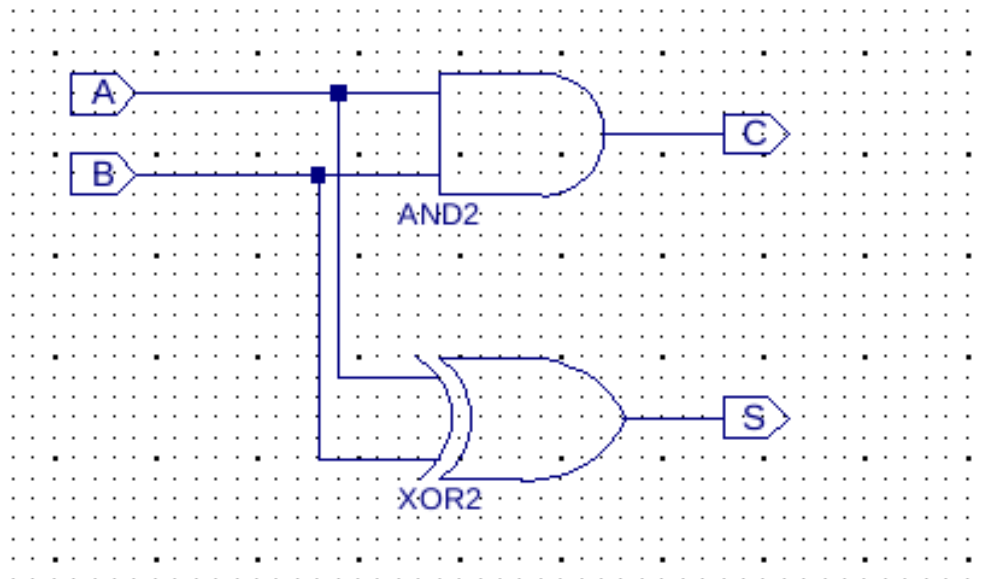

Figure 13: Completed half adder circuit.
- Repeat this process for all input and output ports (i.e., enter “A” and “B” as inputs, and “S” and “C” as outputs). The finished circuit should look similar to Figure 13.